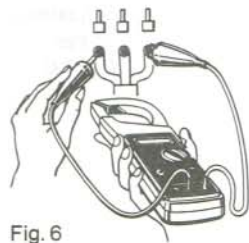

Fig. 6
- (3) Connect the prod tip or alligator clip of the test leads to the circuit under test (Fig. 6). Read the AC voltage directly off the display.